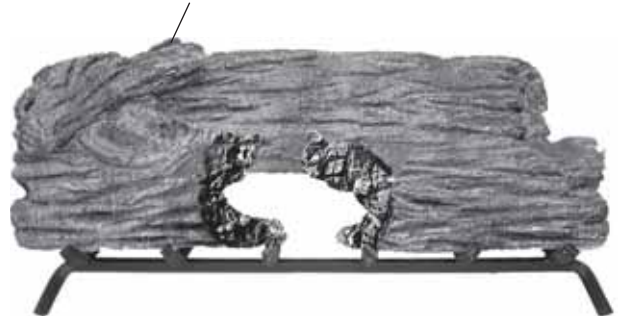

Figure 30 - Placing Left Middle Log (#4)
5. Install left middle log #4 as shown. *See Figure 30.*